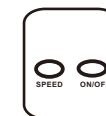

Fig.5
1. Working with remote controller: (Fig. 5)